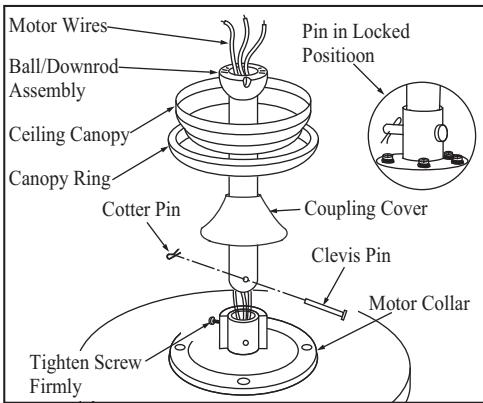

Figure 7
3. Route wires exiting from the top of the fan motor through the coupling cover and canopy ring. Make sure the slot openings are on top. Route the wires through the canopy and then through the ball/downrod assembly. (Figure. 7)
5. Align the holes at the bottom of the downrod with the holes in the coupling on top of the motor housing. (Figure 7) Carefully insert the clevis pin through the holes in the collar and downrod. Be careful not to jam the clevis pin against the wiring inside the downrod. Insert the cotter pin through the hole near the end of the clevis pin until it snaps into its locked position, as noted in the circle inset of Fig. 7.
6. Tighten two set screws on top of the fan motor firmly. (Figure 7)